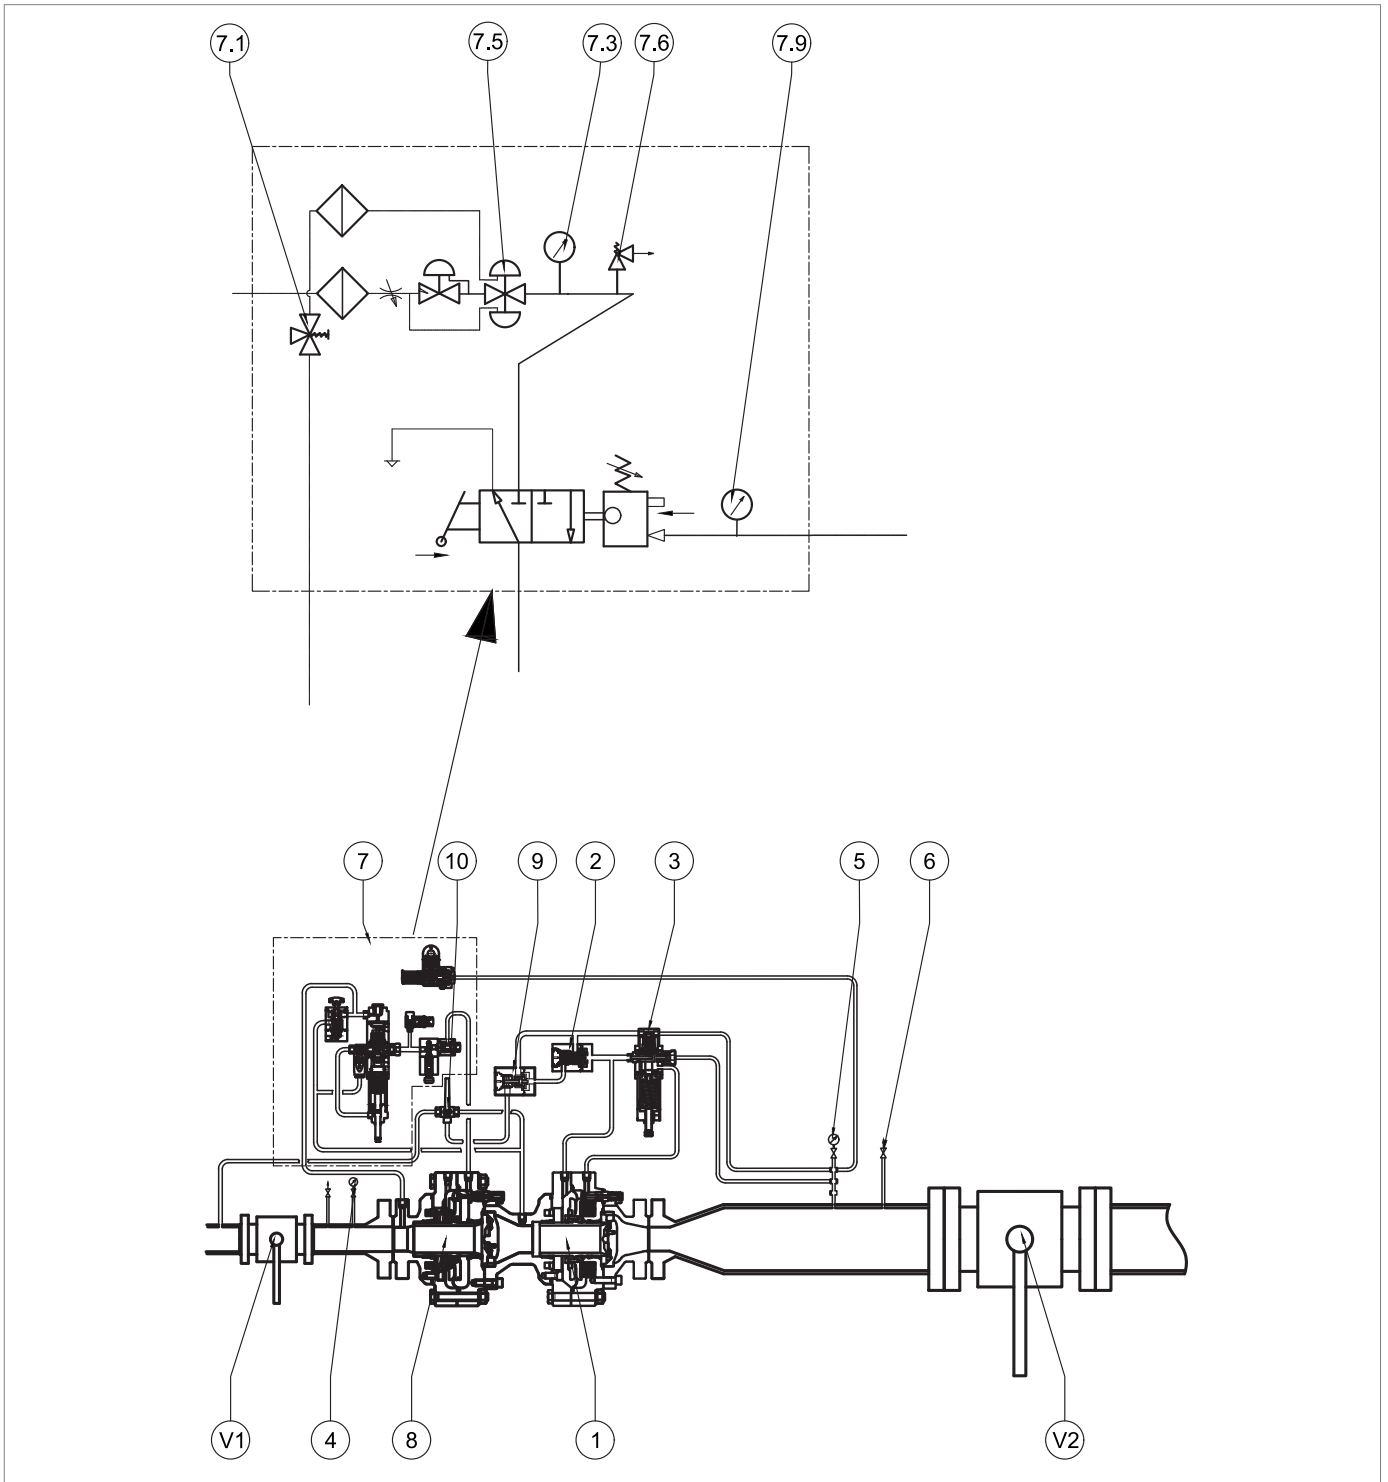

Fig. 8.28. LINE OFF 2.0 commissioning and calibration for the SSX/176 built-in slam-shut valve
4	Balance the upstream and downstream pressure of the slam-shut valve using the HP2/2 bypass valve (Fig. 8.28, ref. 7.1).